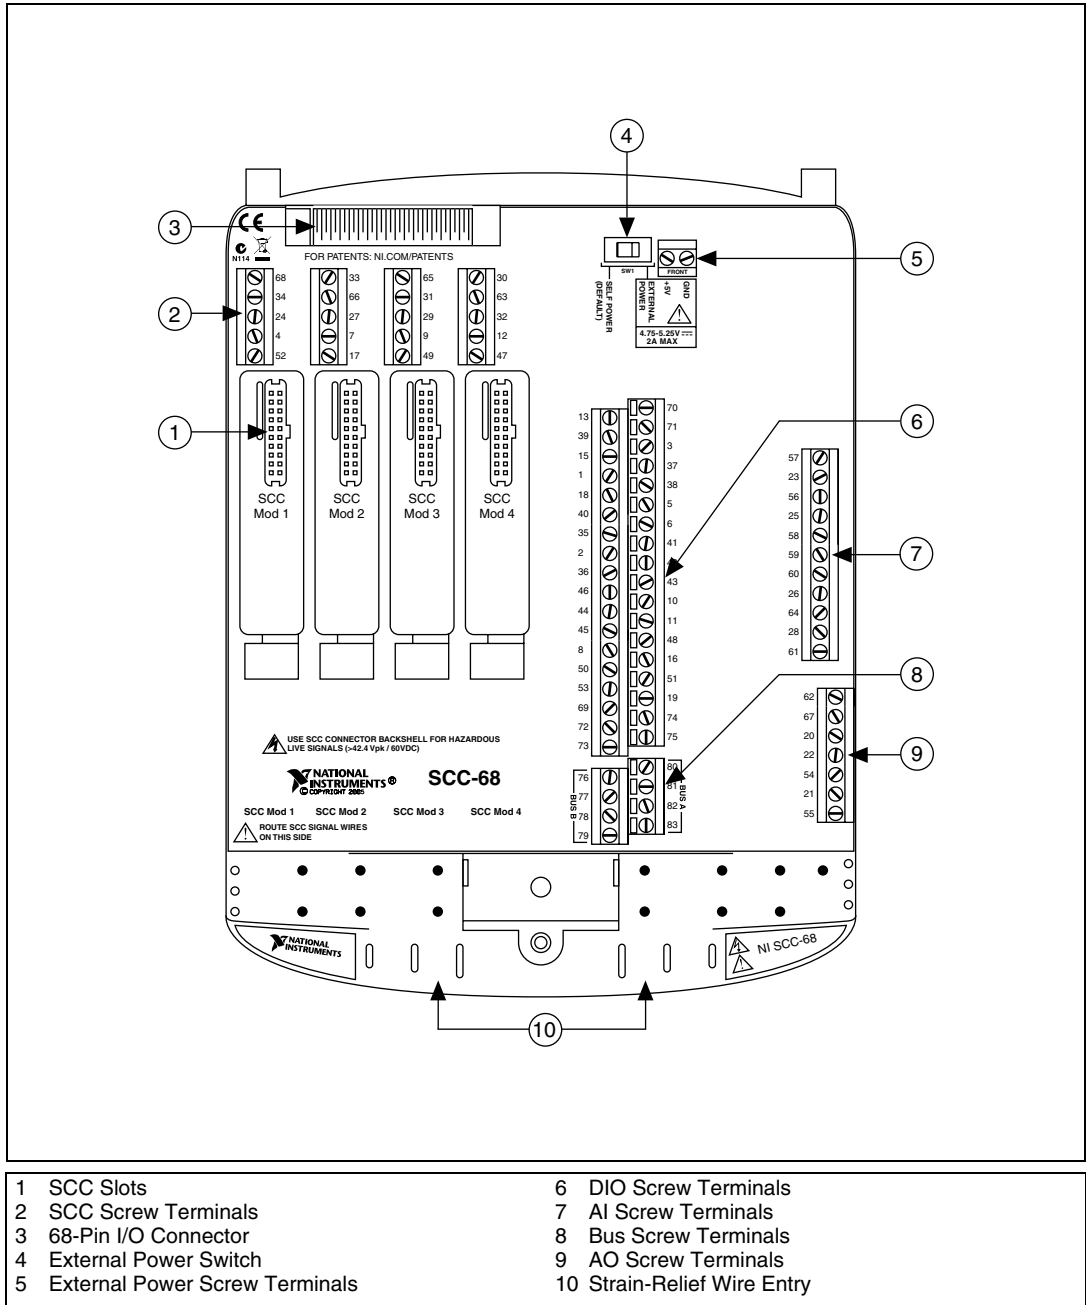

Figure 6. SCC-68 Features
- The DAQ device. Move the power switch to *SELF POWER* (shown in item 4 of Figure 6).
1. Move the power switch to *EXTERNAL POWER*, shown in item 4 of Figure 6.
2. Leave the external power screw terminals, shown in item 5 of Figure 6, unconnected.
If your application exceeds the current limitation of the DAQ device, you will need to connect an external power supply—such as the External Power Supply for the SCC-68 Accessory (Part Number 779641-01)—to the SCC-68. To use an external power supply with the SCC-68, connect the power supply to the screw terminals shown in item 5 of Figure 6 and move the power switch (shown in item 4 of Figure 6) to *EXTERNAL POWER*.